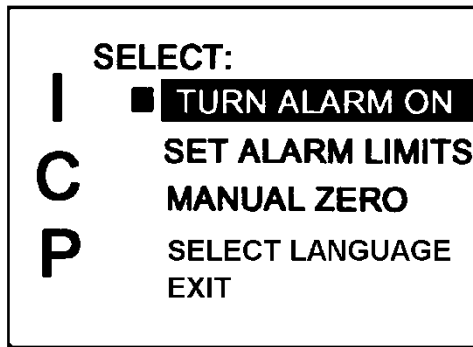

Figure 29
14.6.5 From the standard run mode screen, press the MENU key to access the main menu. Verify that the display appears as shown in Figure 29.